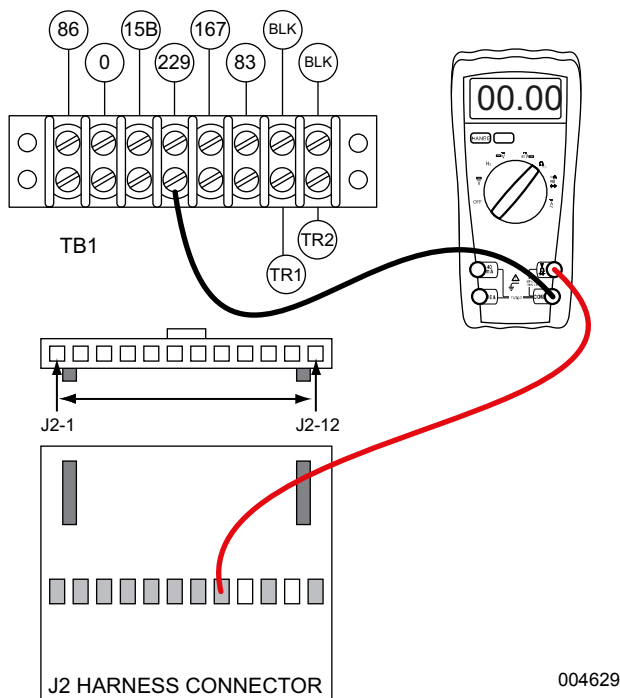

Figure 4-47. Testing Wire 229 Between J2 Connector and Terminal Block 1 (TB1)
11. See Figure 4-47. Connect the other meter test lead to wire 229 at TB1. Continuity should be measured.